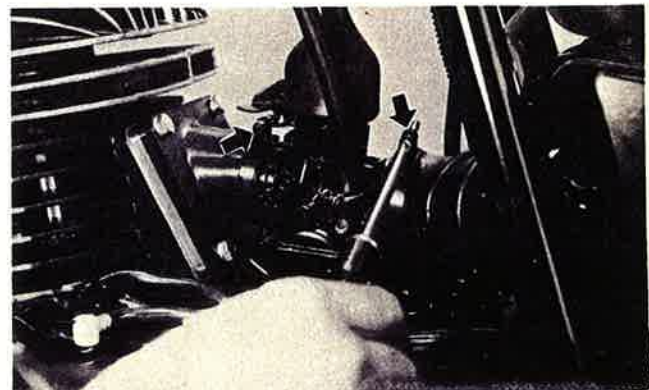

Fig. 3-1-14
1. Loosen two carburetor hose clamps. (Fig. 3-1-14)